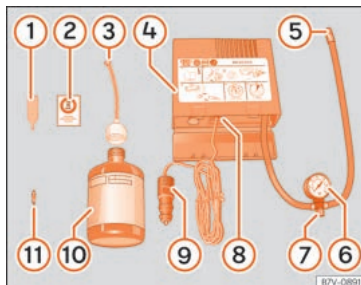

Fig. 100 Standard display: contents of the anti-puncture kit.
» **Fig. 100:**
Screw the inflator tube »» Fig. 100 ⑤ again and check the pressure on the gauge ⑥.